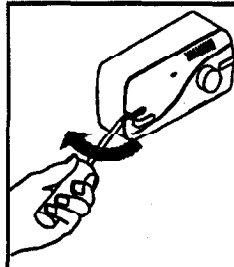

Fig. 2a: Removing screw covers
- 1 Detach the Fascia and the Mounting Frame by removing the screw covers and two screws (Refer to Fig. 2a&b).